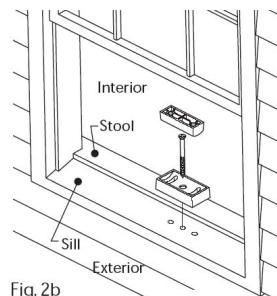

Fig. 2b
**3. Adjust for weight.** (Fig. 2b)